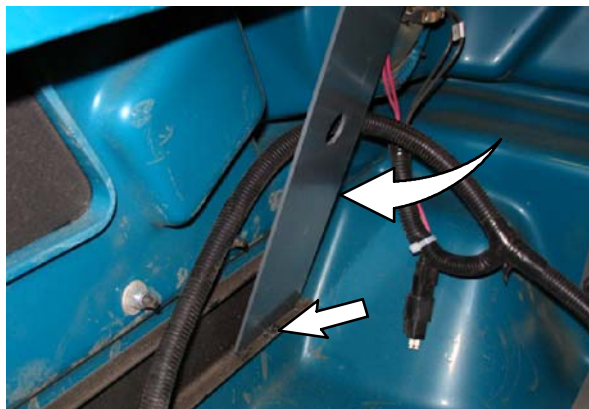

FIG. 9
17. Position the tops of both hopper front lip supports (4) against the front lip of the hopper and align the tabs on the bottom of each support with the holes drilled into the bumper support plate and pry the supports onto the bumper support plate. Refer to Fig. 9.